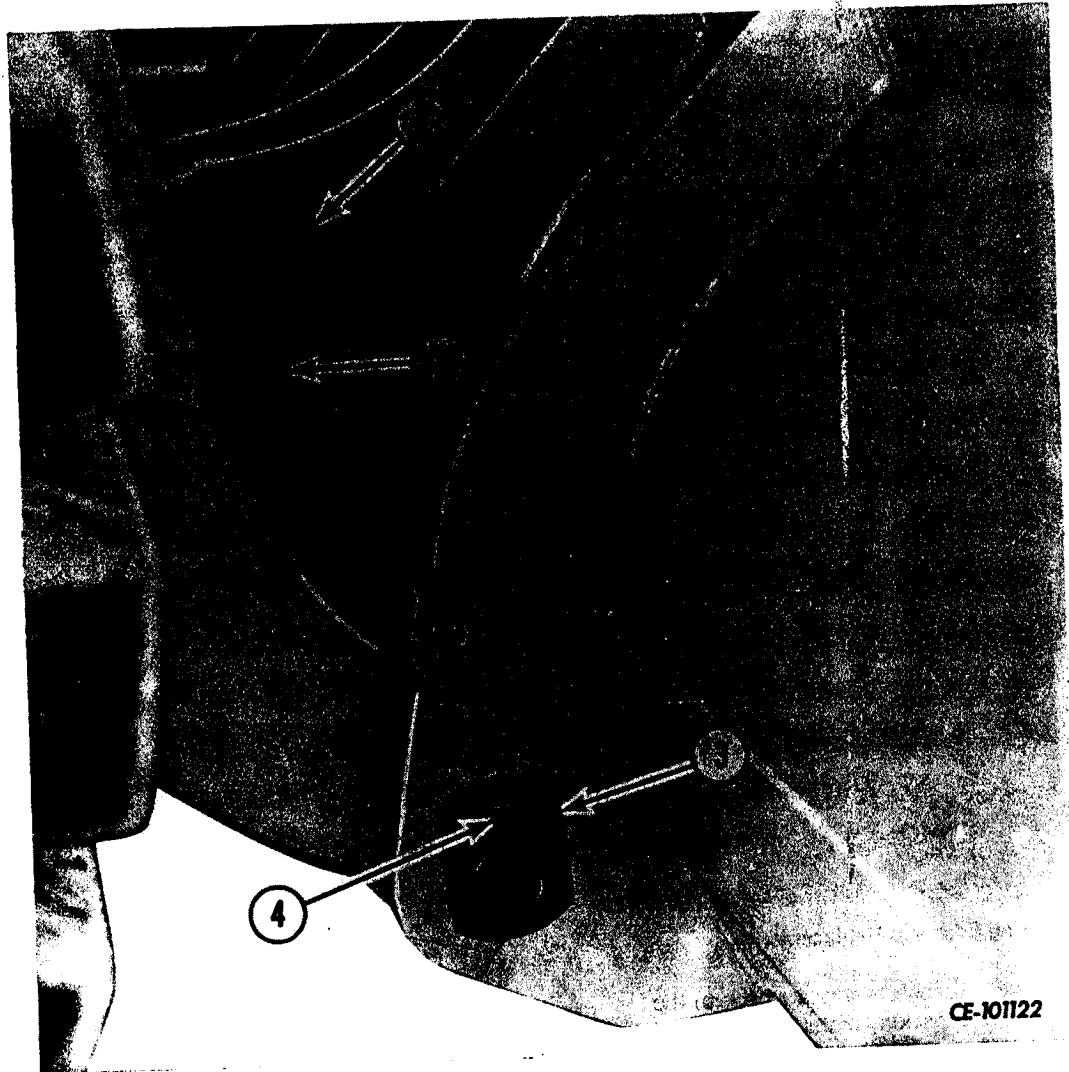

Figure 1-15
Remove the pin locking cap screws (2, Fig. 1-15) with lock washers and flat washers. Remove the pin (1) that attaches the bucket link to the bucket.
Remove cap screws (4, Fig. 1-15) with lock washers and flat washers. Remove pins (3) that secure the boom arms to the
To prevent loss of parts, install pins (1, 3, Fig. 1-15) in their respective bucket bores, looping cord rings over pins